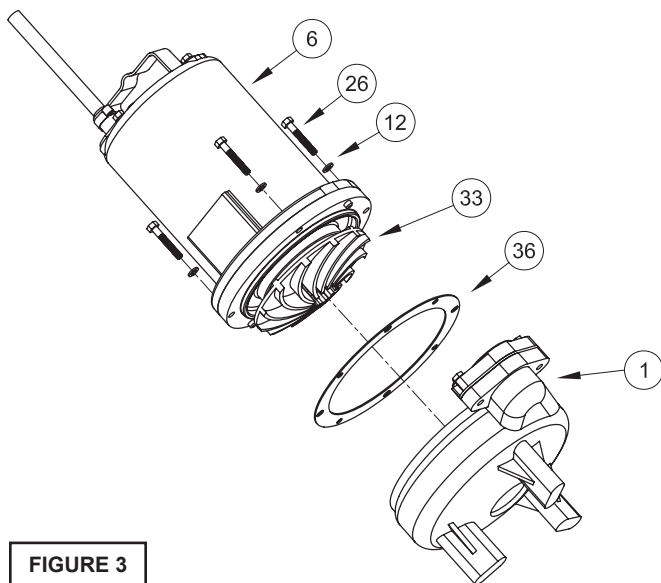

FIGURE 3
To clean out volute (1) or replace impeller (33), disconnect power, remove hex bolts (26), and lockwasher (12), vertically lift motor and seal plate assembly from volute (1) and spacer ring (31), see Figure 3. Clean out body if necessary. Clean and examine impeller (33), for pitting or wear and replace if required, inspect gasket (36) and replace if cut or damaged. If the impeller (33) needs replacing, place a flat screwdriver in the slot of the end of the shaft to hold the shaft stationary while unscrewing the jam nut (66) and impeller (33).